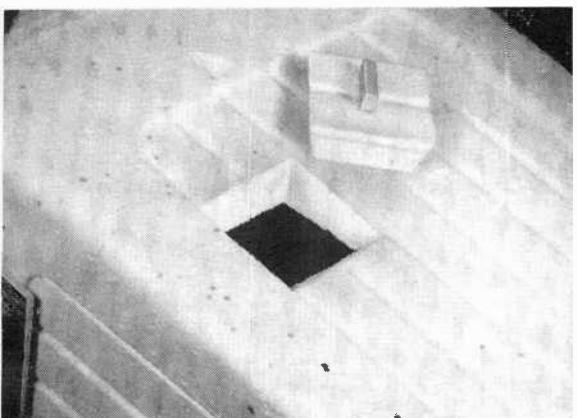

Fig. 7
**Ice Basket.** The basket is an open-topped cube, about 3" on each edge, made of wire screen. Four  $\frac{1}{8}$ " round dowels are glued to the corners with epoxy and the dowels are used to secure the basket to a plywood or plastic plate which is secured to the base of the chamber as shown in Fig. 6. When the basket is in place, cut a small hatch directly over it as shown in Fig. 7. Note that the hatch is cut with sloping sides so that the cover cannot drop into the cooler. Any small handle can be used on the cover.